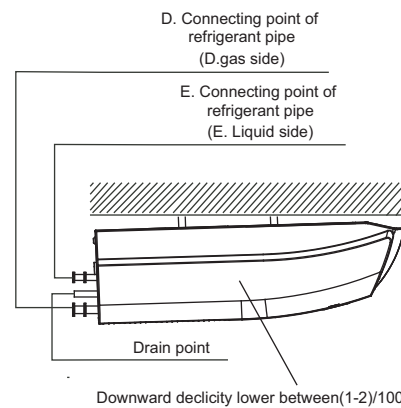

**Fig. 11 – Locate the hanging arm**
3. Locate the hanging arm on the hanging screw bolt (Fig. 11).